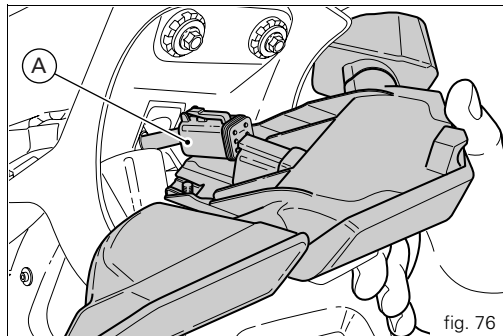

fig. 76
Disconnect the connector (A) of the rear wiring harness and remove the rear light mounting (fig. 76).